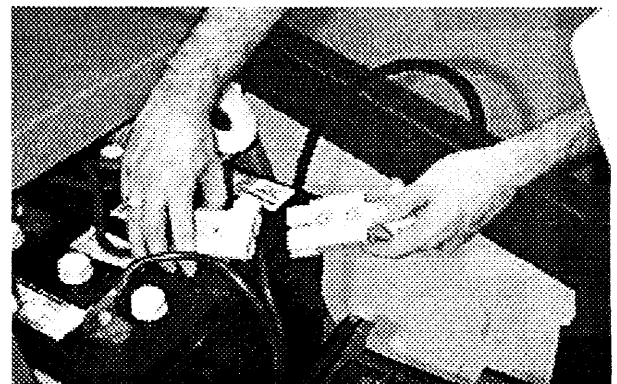

FIG. 33.
8. Unplug battery connector from machine connector, located in battery compartment, and plug charger into battery connector. (Figure 33)